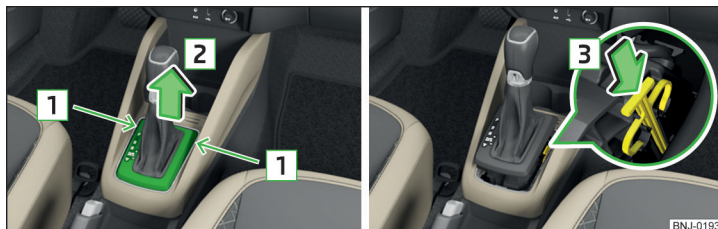

Fig. 196 Selector lever-emergency unlocking
- Insert a flathead screwdriver into the gap in the arrow range [1] » Fig. 196 and carefully lift the cover in arrow direction [2].